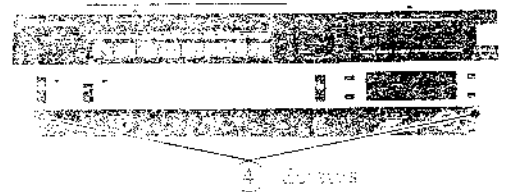
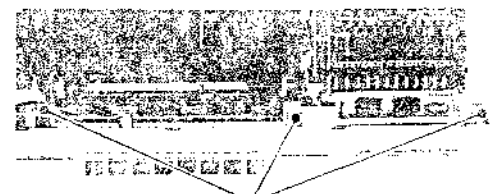
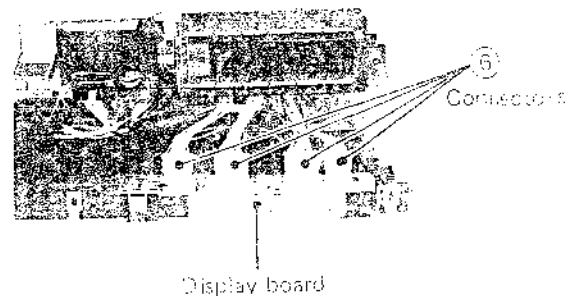

Fig. 3-5
Fig. 3-6
Fig. 3-7
5. To remove the front cover, first take out 2 screws (4) shown in Fig. 3-5, then take out 3 screws (5) shown in Fig. 3-6. Carefully pull the front cover forward. Disconnect the 4 DISPLAY board connectors (6) shown in Fig. 3-7.